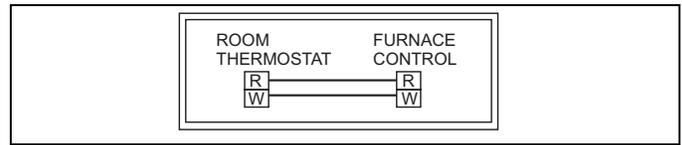
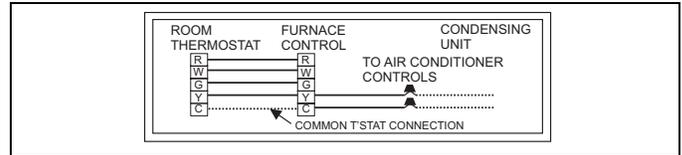

FIGURE 17: Wiring for Heat Only Thermostat
FIGURE 18: Wiring for Electronic Heat-Cool Thermostat
2. Connect the thermostat wires to the furnace low voltage pigtails. See Figure 17 (heating only) and Figure 18 or 19 (heating and cooling).